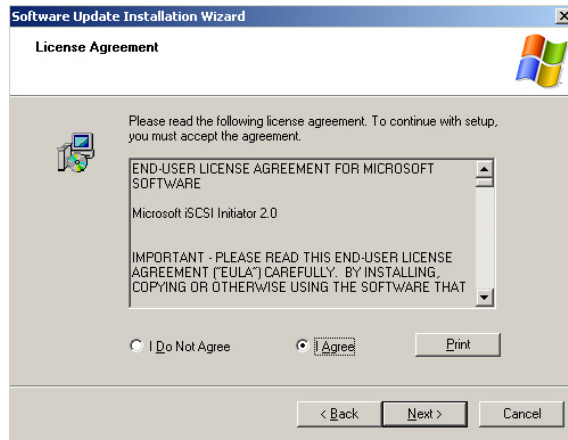

Figure A.3 License Agreement Dialog Box
4. When the License Agreement displays (see Figure A.3), read it, select the **I Agree** radio button, and then click **Next**.